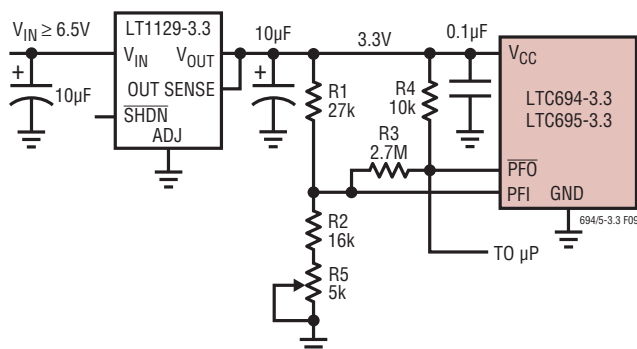

Figure 9. Monitoring *Regulated* DC Supply with the LTC694-3.3/LTC695-3.3's Power-Fail Comparator
**Example 2:** The circuit in Figure 9 can be used to measure the regulated 3.3V supply to provide early warning of power failure. Because of variations in the PFI threshold, this circuit requires adjustment to ensure the PFI comparator trips before the reset threshold is reached. Adjust  $R5$  such that the  $\overline{PFO}$  output goes low when the  $V_{CC}$  supply reaches the desired level (e.g., 3.1V).